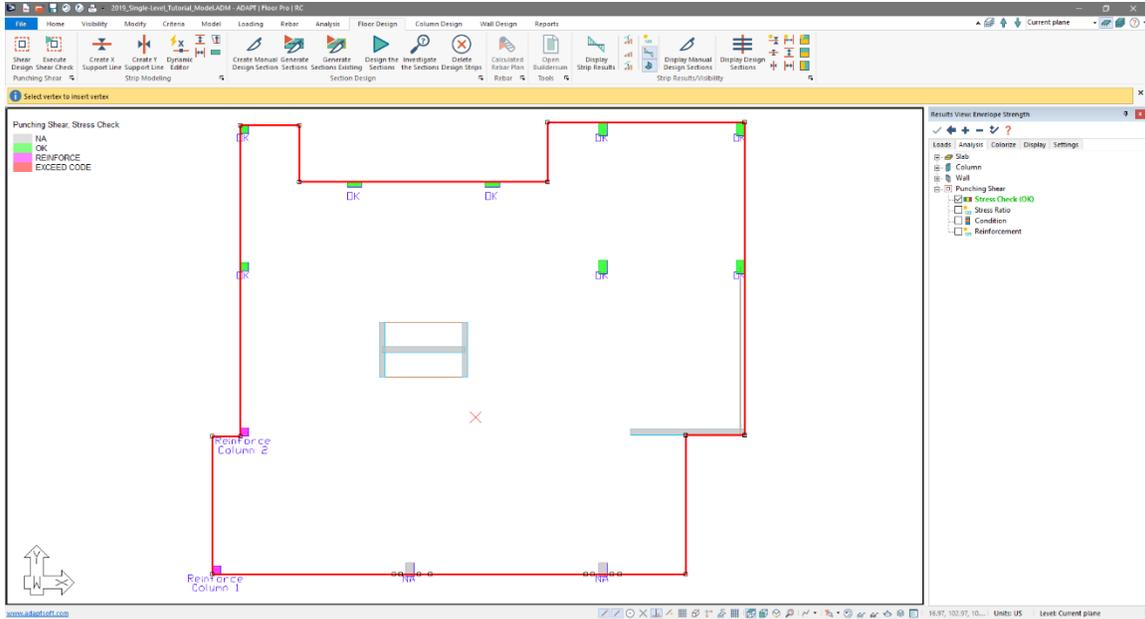

Figure 7-7
- **Left-click** four times near each column we need to engulf in the slab region. When done the user should have added points along this slab edge as shown in **FIGURE 7-7**.